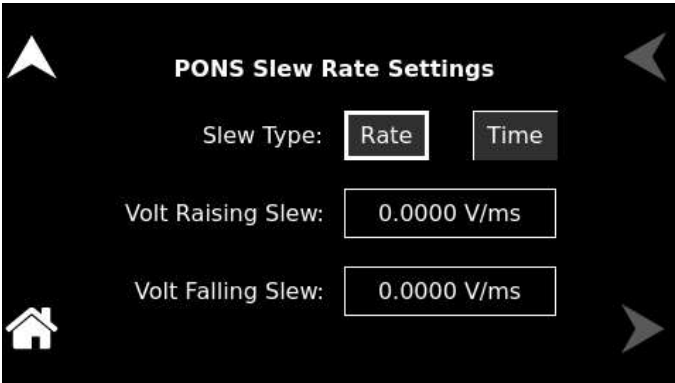

Figure 11-83. PONS Slew Rate Settings – Voltage
**PONS Slew Rate** User can configure the voltage slew rate. This allows for precise control over the voltage, ensuring smoother transitions and better performance of the power supply. Adjusting this settings can help in optimizing the response time and stability of the system. Refer to Figure 11-83.